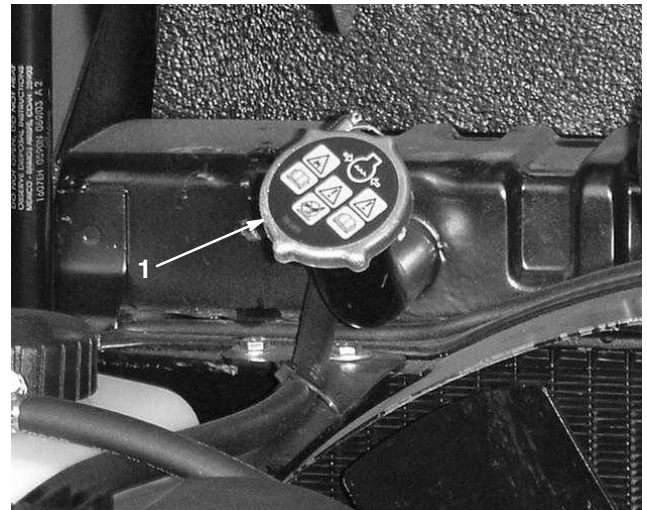
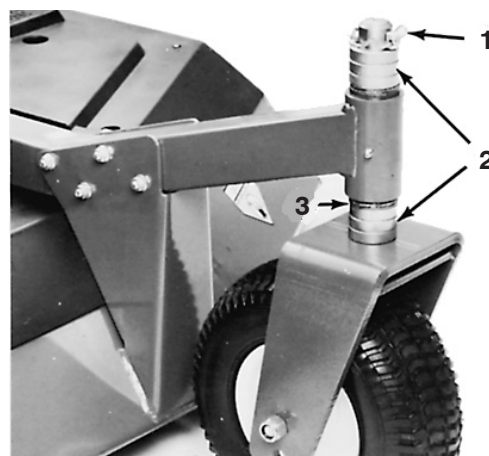

Figure 9
Figure 14
5. If adding large quantities of solution, remove radiator cap (Fig. 9) and fill radiator until level of coolant is above the radiator core and about 1 in. (25 mm) below bottom of filler neck.
4. On all remaining castor wheel assemblies, remove lynch pin from castor fork shafts (Fig. 14). Remove castor fork shaft and spacer assembly from the castor arm (Fig. 14). Place spacers onto castor spindle to desired height-of-cut setting and install castor fork shaft in arm (Fig. 9). Install remaining spacers onto shaft and secure assemblies with the lynch pin (Fig. 14).